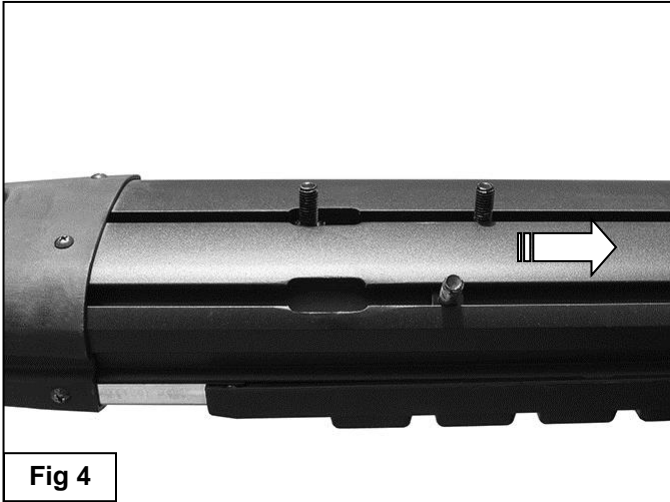

Fig 4
- Select the driver Sidebar. Locate the opening in the end of the channels in the bottom of the Sidebar. Slide (2) 8mm T-Bolts into each channel, **(Figure 4)**. Carefully position the Sidebar onto the (2) Mounting Brackets. Lift the Sidebar up and slide the T-Bolts along the sidebar to match up with the Brackets. **IMPORTANT:** Do not slide, (front to back or rotate), the Sidebar on the Brackets or damage to the finish on the Sidebar may result.